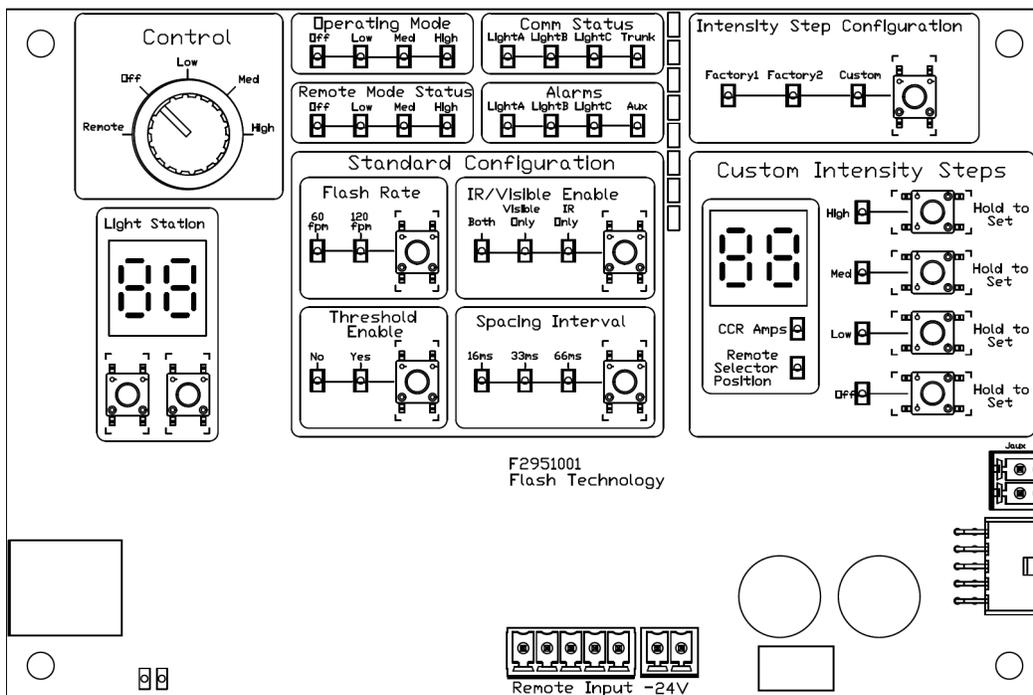

Figure 3.2 – User Interface Board
The user interface board is located inside the PC 800(L) enclosure and controls the operational parameters of the REIL system. Refer to Figure 3.2 for a graphical reference to the sections listed below.